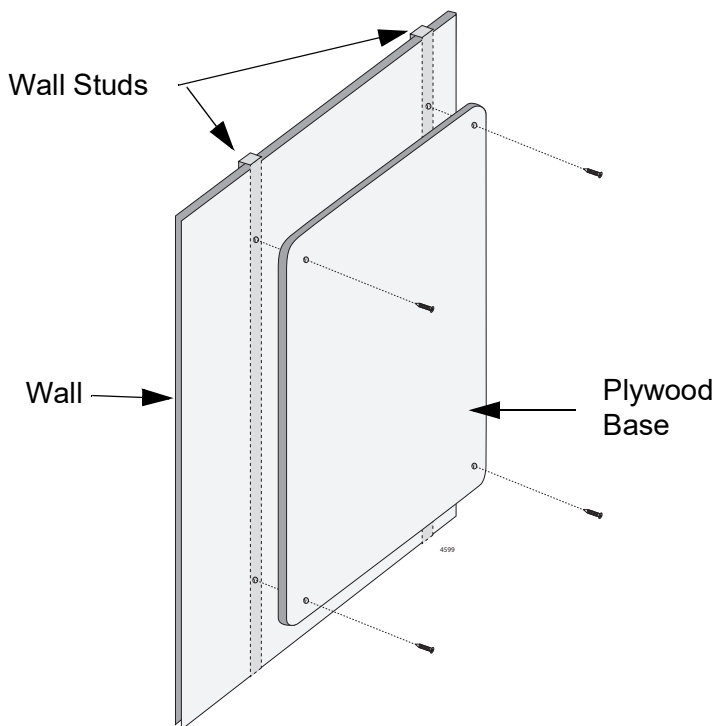

Figure 38. Installing the Plywood Base to the Wall
1. Install the plywood base on the wall and then install the switch on the base. Refer to Figure 38.